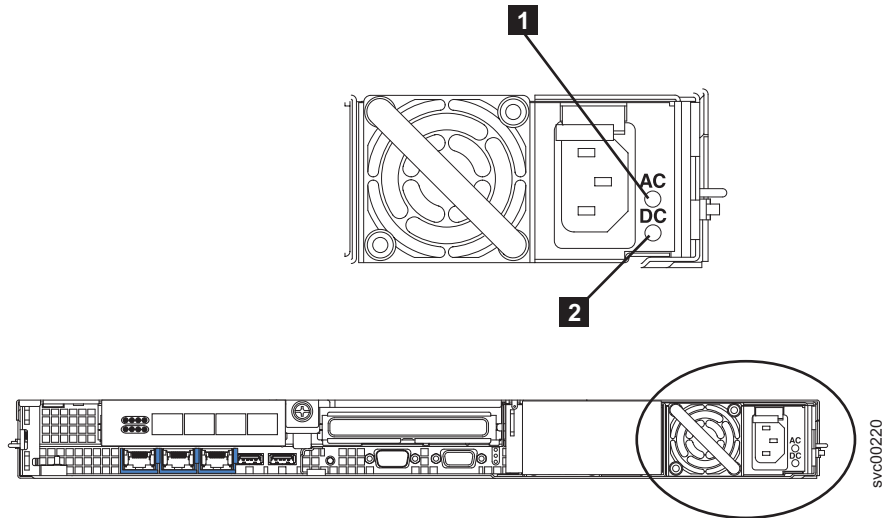

Figure 185. SAN Volume Controller 2145-8G4 ac and dc LEDs
4. Make sure that the ac power LED **1** and the dc power LED **2** (shown in Figure 185 on page 514) on the power supply are lit, indicating that the power supply is operating correctly. The two green LEDs are next to the power-cord connector.